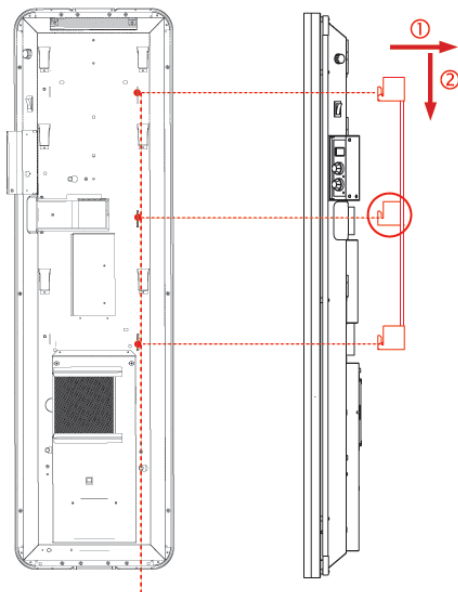

Fig.3
4. Using the 6 vertical hooks on the wall bracket, place the radiator over the hooks (**1**) and pull downwards to secure (**2**) (see **Fig.3**)